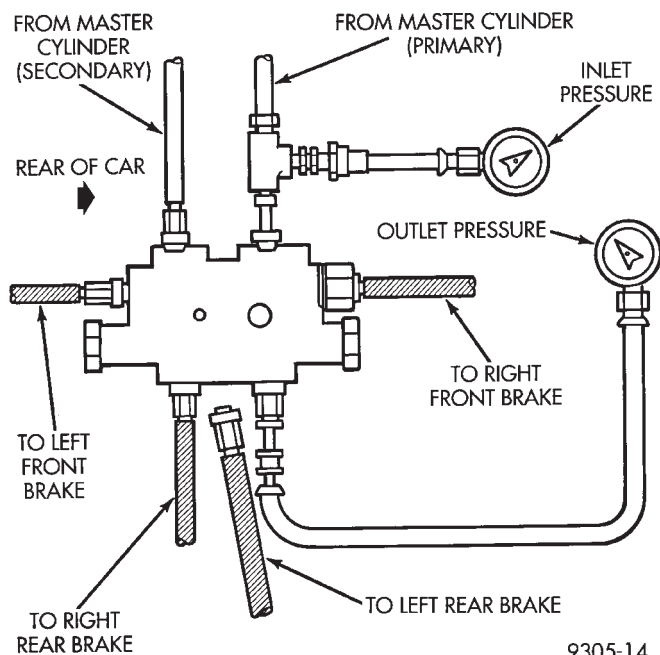

Fig. 20 Tube Connection For Left Rear Skidding
(1) Install one gauge and (TEE) of set C-4007-A between brake line from master cylinder primary port and brake valve assembly (Fig. 20).
(2) Install the second gauge of set C-4007-A to the left rear brake outlet port (Fig. 20). An adapter tube, made up from a M12x1 tube nut, a short piece of brake tube and 3/8 x 24 tube nut, will be required to connect hose to valve. Bleed the gauge and hose.